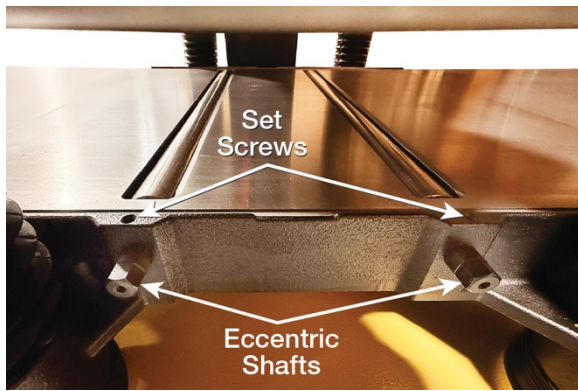

Figure 9-5
3. On one side of the table, loosen the set screws (Figure 9-5) with a 3mm hex wrench, and turn the eccentric shafts to raise or lower the rollers.